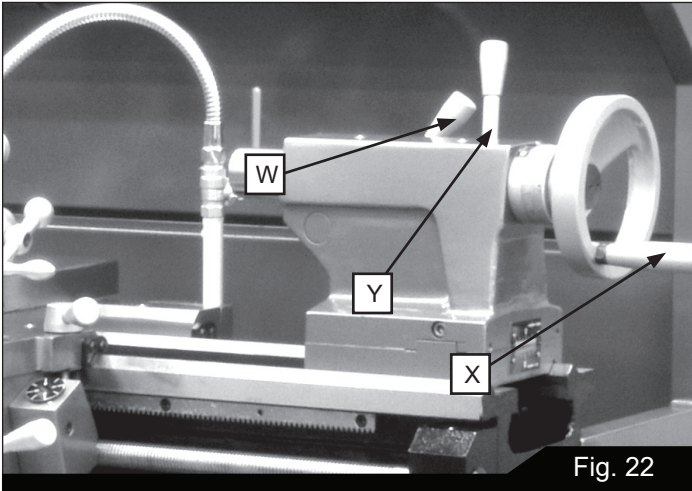

Fig. 22
15. **Tailstock Quill Clamping Lever (W, Figure 22):** Rotate clockwise to lock the sleeve. Rotate counterclockwise to unlock.
17. **Tailstock Quill Traverse Handwheel (X, Figure 22):** Rotate clockwise to advance the quill and counterclockwise to retract it. Fully retract it to eject a center or drill chuck.
16. **Tailstock Clamping Lever (Y, Figure 22):** Lift up to lock. Push down to unlock.